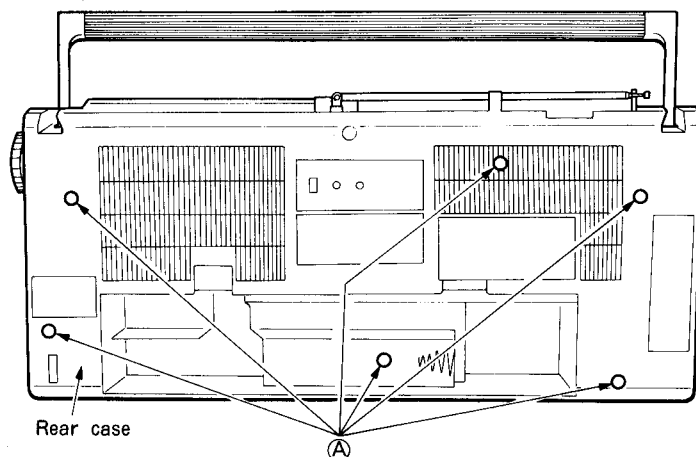

Fig. 2
2. Removing Rear case (Fig. 2)